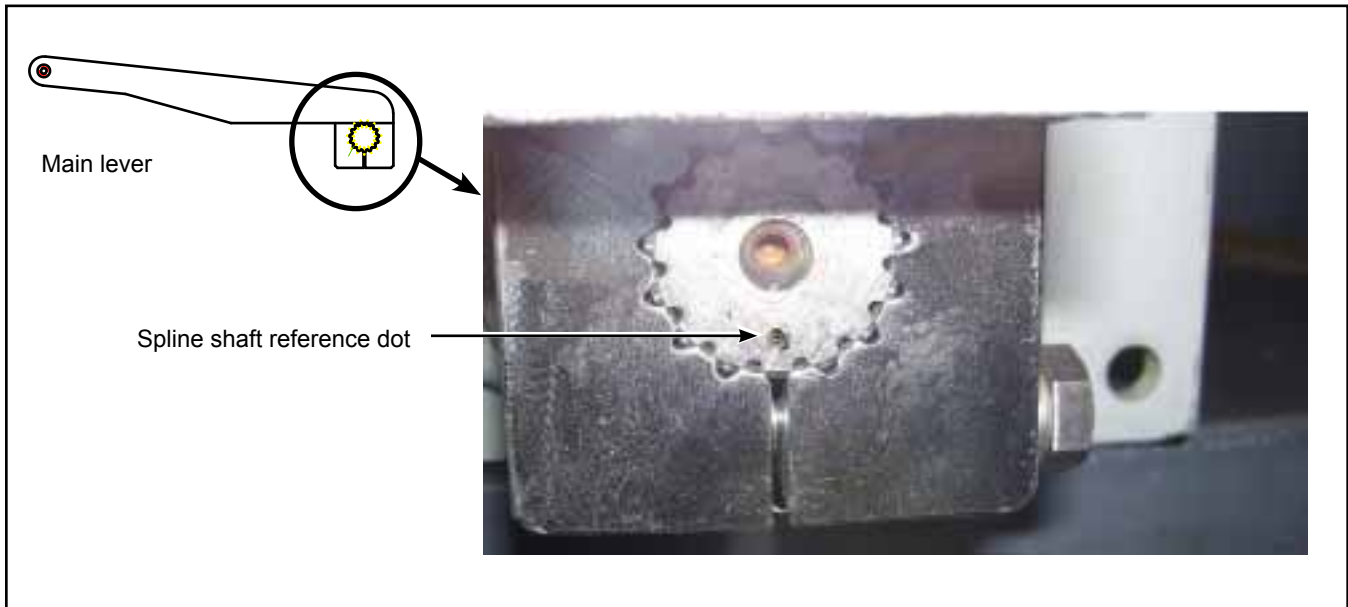

Figure 7 - Main Lever and Splined Shaft Reference Dot
- 2.12. Install the main lever with the retained hardware onto the splined shaft of the access ramp. Ensure that the timing mark on the splined shaft is at the bottom. Align with the main lever slot when installed. See Figure 7. Do not fasten the hardware.